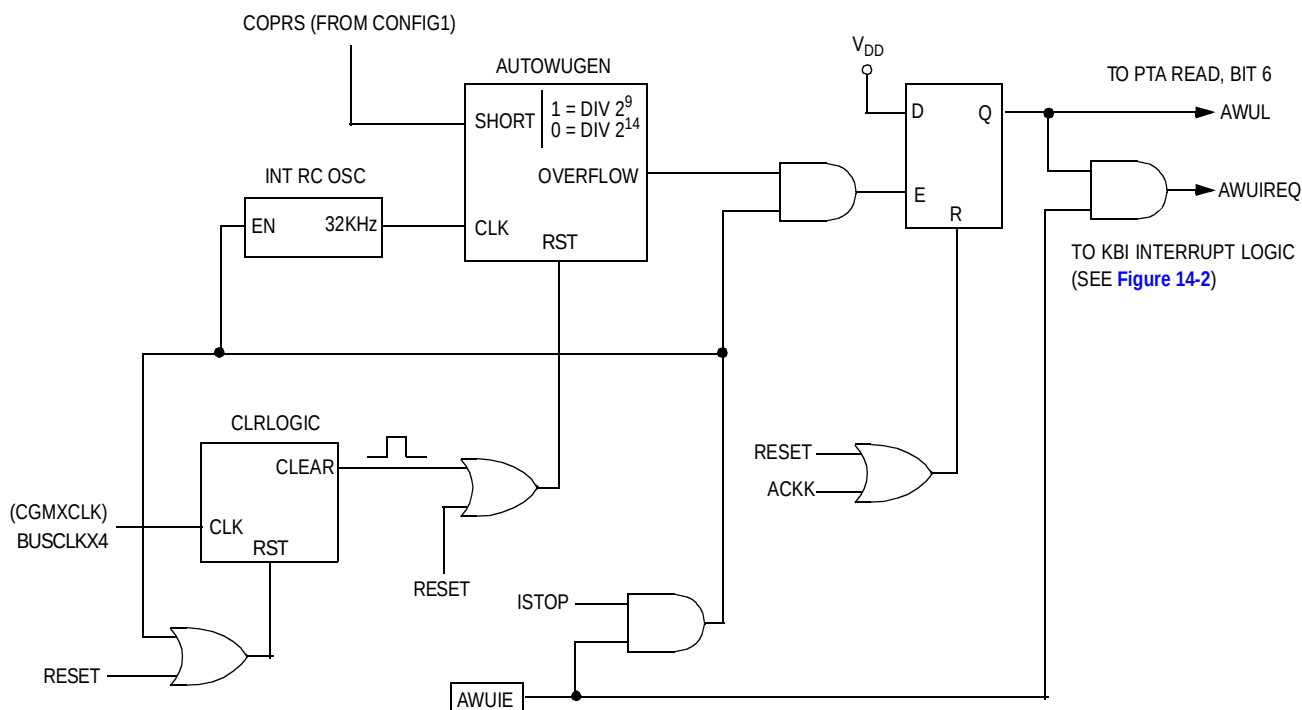

**Figure 14-5. Auto Wake-up Interrupt Request Generation Logic**
1. For AWUGEN logic refer to Figure 14-5.
Writing the AWUIE bit in the keyboard interrupt enable register enables or disables the auto wake-up interrupt input (see Figure 14-5). A logic 1 applied to the AWUIREQ input with auto wake-up interrupt request enabled, latches a keyboard interrupt request.